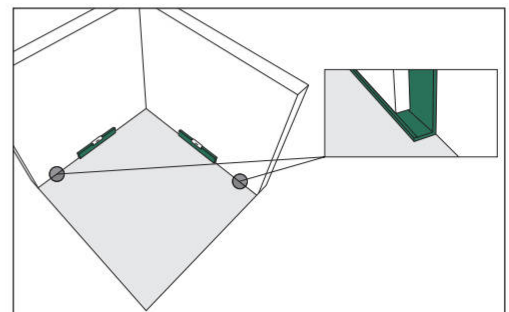

Fig.8
- Ensure the starter strip is installed level before fitting the first panel.Use a spirit level or laser level to check alignment. (Fig.8)